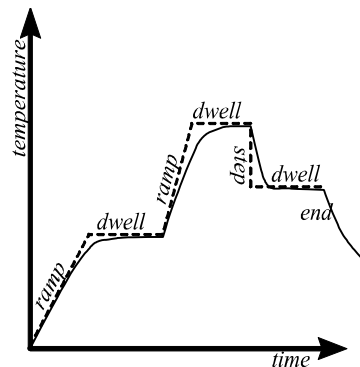

fig 3 - a program
- Alternatively the 2416 may be used as an 8-segment programmer, with each segment being a Ramp, a Step, a Dwell, or End. The program can be set to cycle if required. See fig. 3.